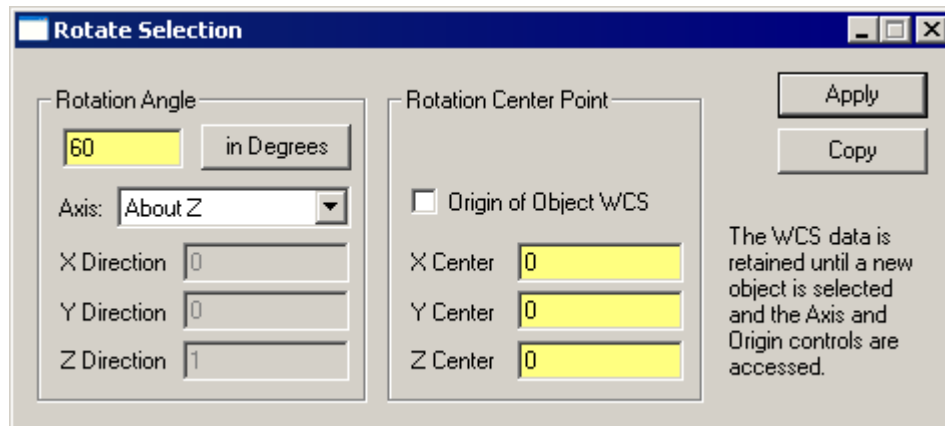

FIGURE 9.44 - Rotate Selection Dialog
15. Enter 60 for Rotation Angle and change the Axis to About Z. See Figure 9.44.